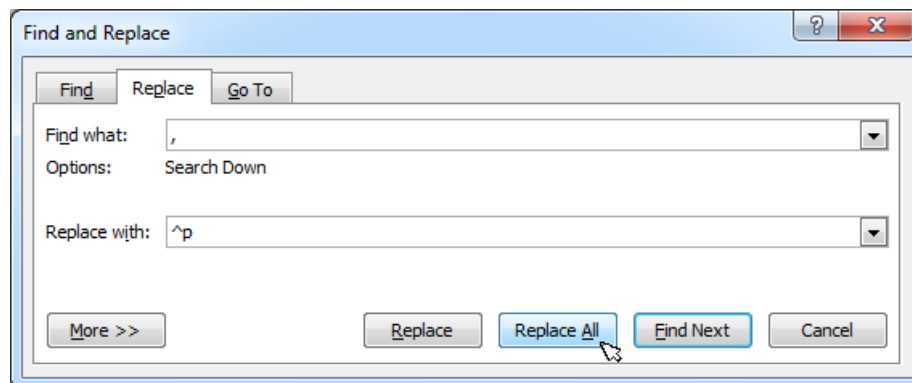

Figure 4. Replacing Commas with Paragraph Marks in the “Reference Designator” Text
7. **Select** (highlight) all of the data. Select the MS Word **Replace** function (referred to as “Find and Replace”). At “**Find what:**” enter a ‘comma’ character; at “**Replace with:**” enter ^p. Click on **Replace All** (See Figure 4.)